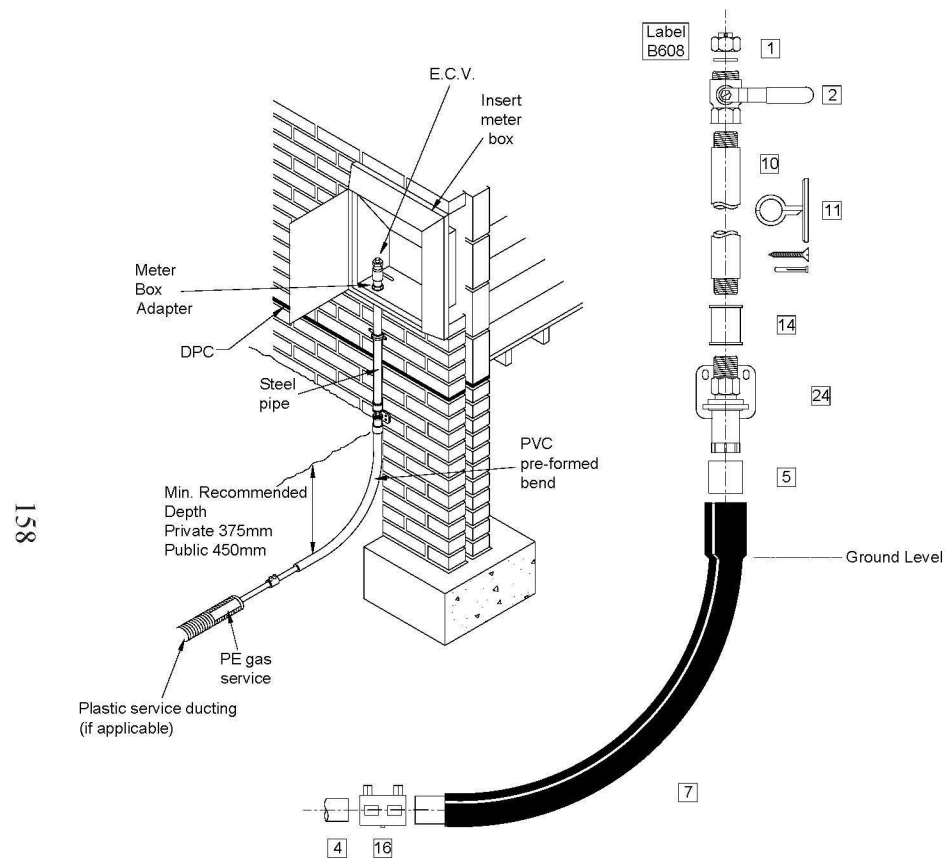

Figure D10a - PE service to inset meter box
1. Where there is a serious threat of vandalism to an external service entry, or as part of the remedial work following interference damage, preference should be given to providing an internal meter position or where this is not possible, steel pipe should be used as shown in Figures D10a and D10b.
Materials List for Figures D10a and D10b